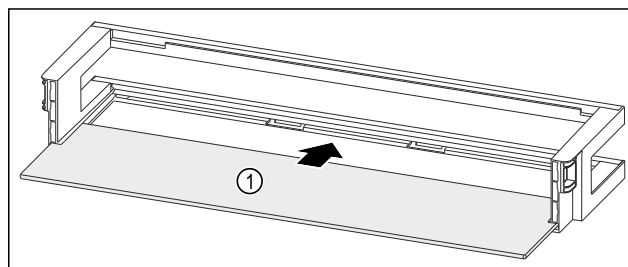

Fig. 124 Door racks with shelf
- Push the shelf Fig. 124 (1) into the side cutouts.